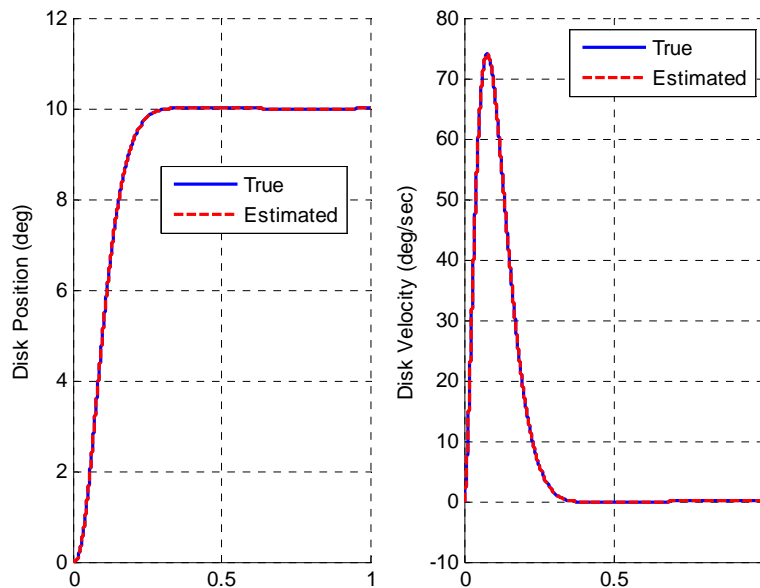

Figure 18. Full order observer state variable feedback with integrator (problem 5b).
b) For an input of 10 degrees, a final time of 1 second, place the state feedback poles at $p_s = [-35, -20+10j, -20-10j]$ and observer poles at $p_o = [-25 -30]$, you should get a graph like that in Figure 18.